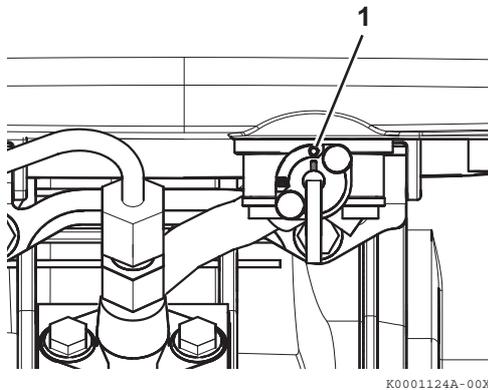

Figure 1
2. Make sure the fuel cock is in the ON position (**Figure 1, (1)**).